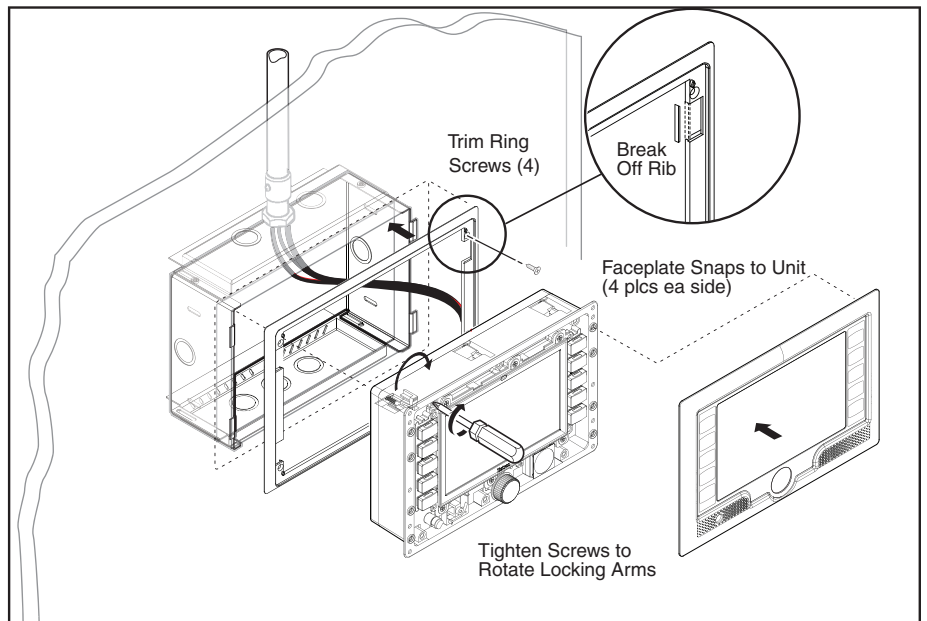

Figure 3
10. Snap the four plastic ribs from the TR 700M trim ring so that the trim ring fits over the metal tabs of the BB 700M (see inset in figure 3).
12. Finish installing the TLP 700MV as described in steps 8 to 11 on the next page (and see figure 3).